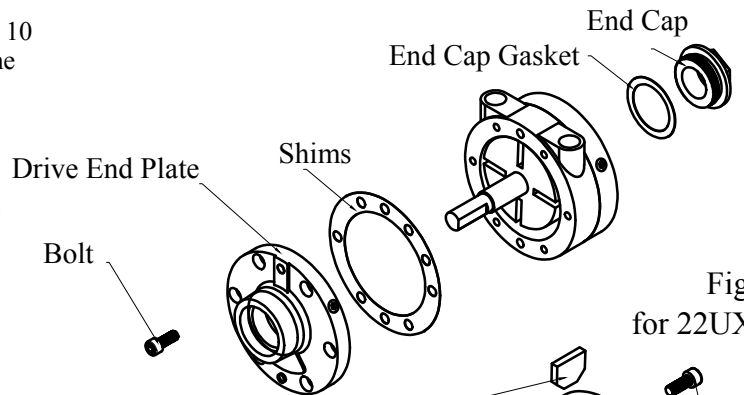
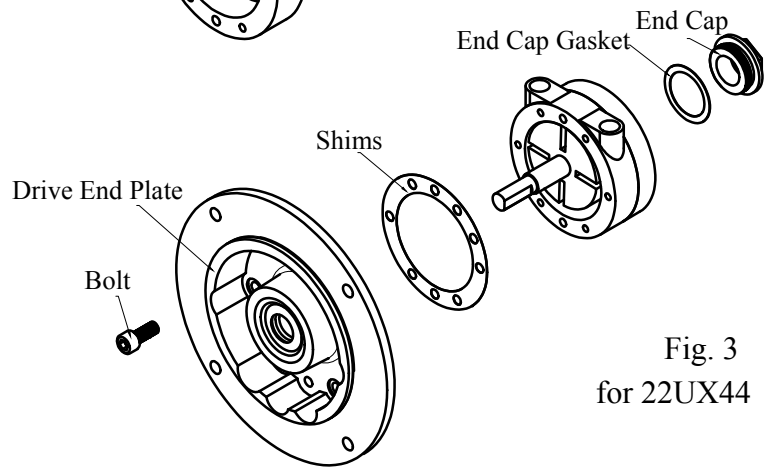
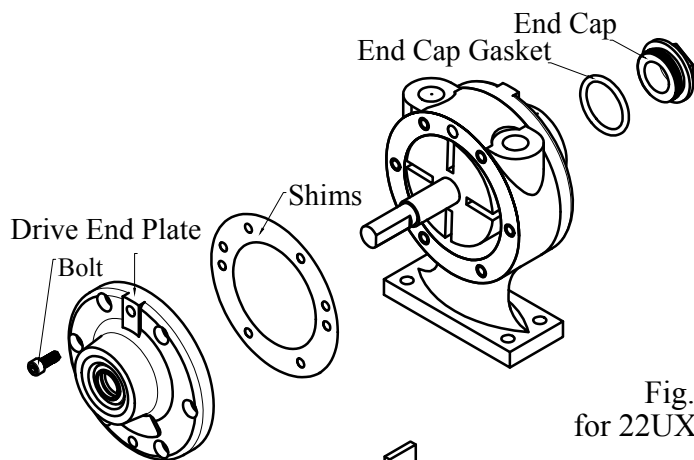

Fig. 1
Fig. 3
Fig. 5
- Use the proper sized wrench to carefully remove the end cap from the motor with approximately 25 ft-lb torque. Then remove the end cap gasket. Refer to fig. 1, fig. 3, fig. 5.
- Remove the drive end plate. Refer to fig. 1, fig. 3, fig. 5.